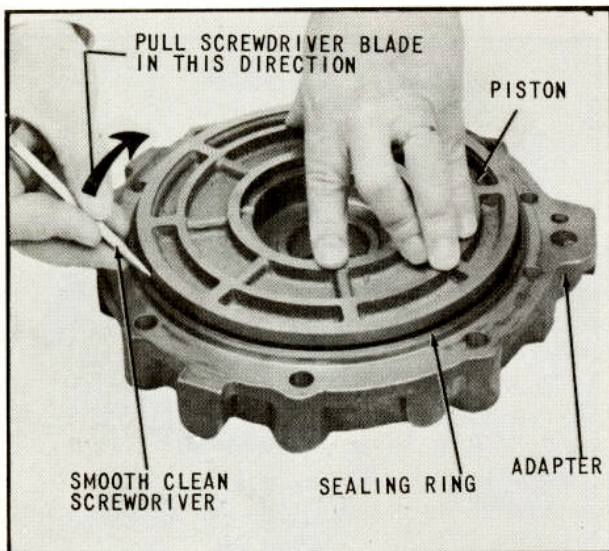

Fig. 56 Installing Reverse Clutch Piston in Adapter
56. Place the reverse clutch piston, as assembled in step 54 on the adapter, as assembled in step 53, (Fig. 56). Press down on reverse clutch piston while pulling a smooth, clean screwdriver blade around the exposed portion of the sealing ring. This will aid the chamfered bore in the adapter to compress the sealing ring into the groove in the outside diameter of the piston. Assembly can be completed by using hand pressure until piston has "bottomed" in reverse clutch cavity.